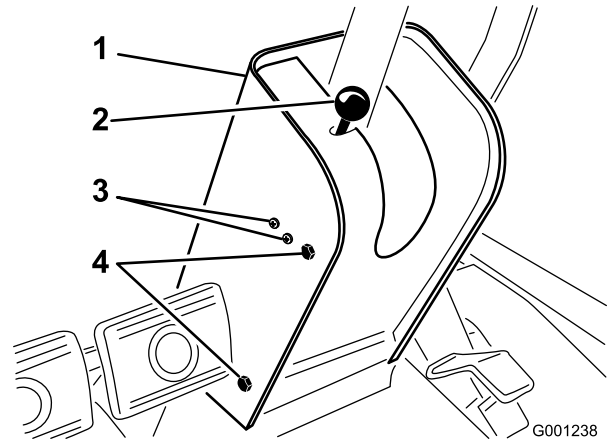

Figure 61
2. Remove the knob from the parking-brake rod and screws from the steering-tower cover (Figure 61).
4. Loosen the screws and nuts securing the PARKING BRAKE switch to the left side of the steering tower (Figure 61).